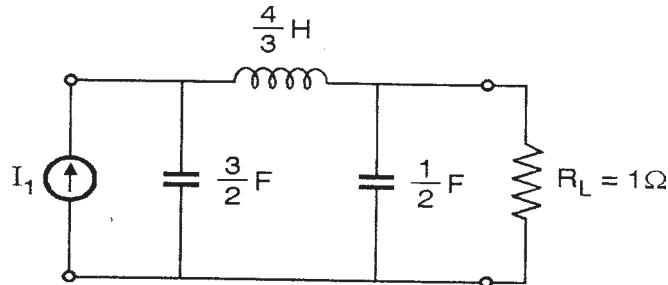

Figure 1
c) Convert the low pass filter of Fig 1, into a band stop filter with 500Ω impedance level, bandwidth (B.W) = 20 Krad/sec. and pass band center at $\omega_0 = 50$ Krad/sec. [4]